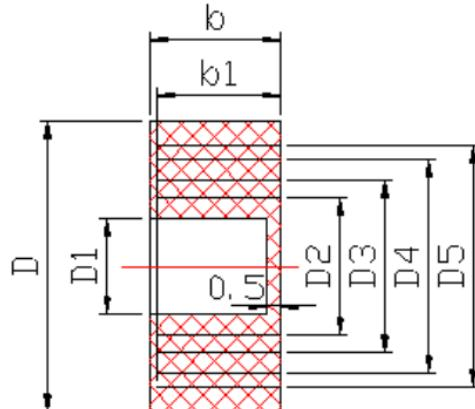

Figure 3
- 6.2.6 External diameter of the cable should fit bore diameter of the seal ring (Figure 3). Cable's min diameter is D1, max is D5; seal ring is made of rubber XH-21, specification and dimension see table 5 (concentric-ring of seal gasket can be stripped off to fit inner diameter of lead-in cable). The diameter gap should not exceed 1mm. Clamp the connection plug and ensure that there is no clearance between seal ring and power cable as well as between seal ring and connection box body, otherwise the motor will lose its flameproof function.